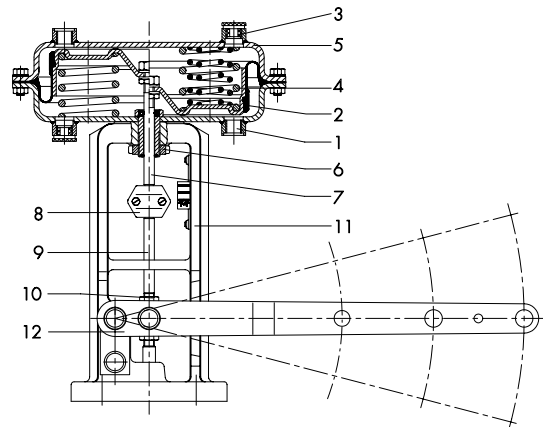

Fig. 3 · Sectional drawing of the Type 3204-1 Pneumatic Actuator with Rotary Lever (right half of diaphragm case with multiple springs)
### Principle of operation (Fig. 3)
The operating direction of the actuator stem (7) depends on how the springs are arranged and to which diaphragm case the loading pressure is connected (Fig. 3).